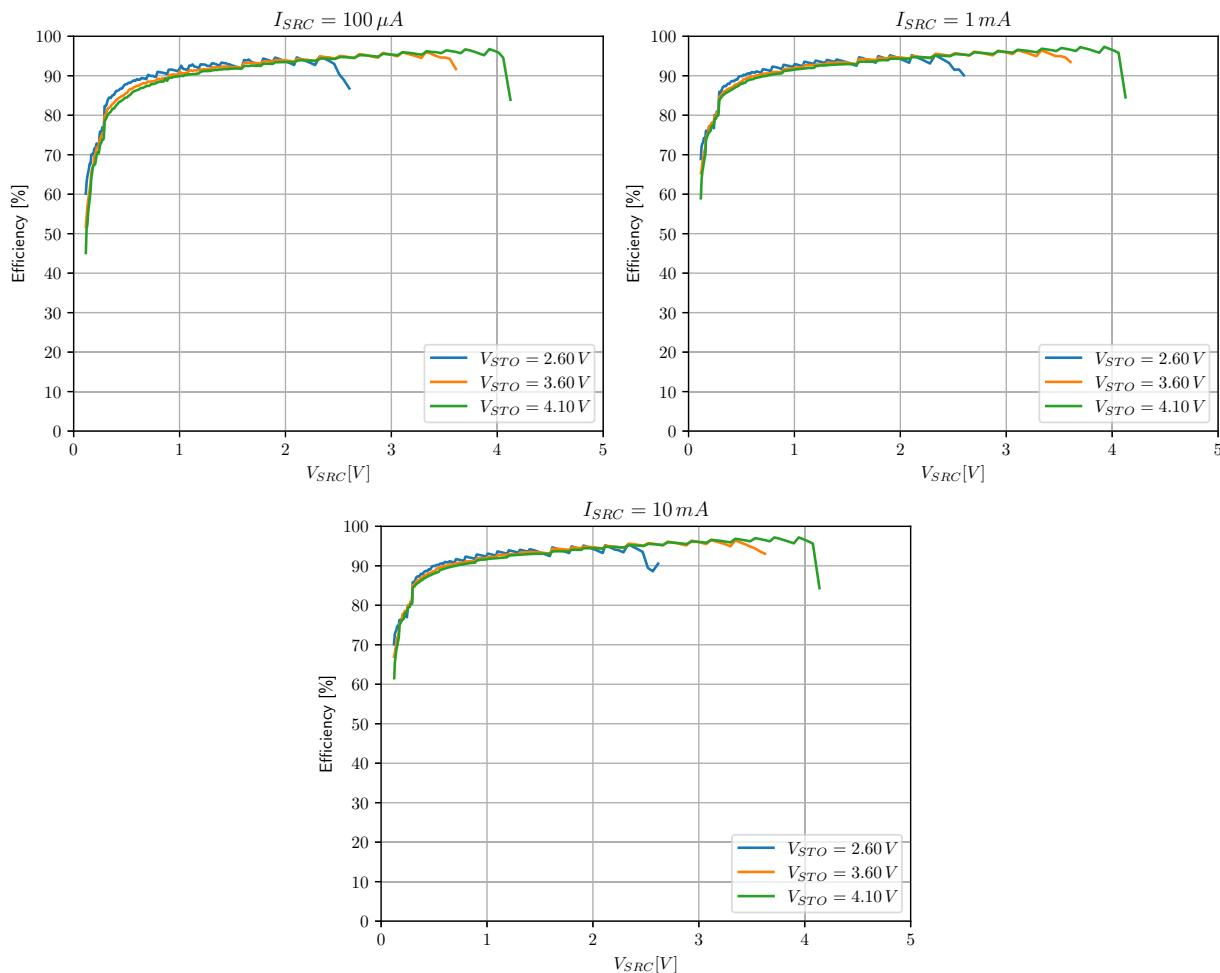

Figure 7: Boost converter efficiency with $L_{BOOSTx} = 33 \mu H$ (Coilcraft LPS4018-333MRB), $BSTxCFG.TMULT = 0x02$ (x3)
- Optional: a device able to act as an I²C master and send I²C commands to the AEM13920. Only useful when testing settings that are not accessible through the configuration pins, such as boost timings. Please note that, the results shown on Figure 7 are with x3 boost timing, which is the default value when not configuring the AEM13920 through the I²C registers, but must be configured if the I²C is used.